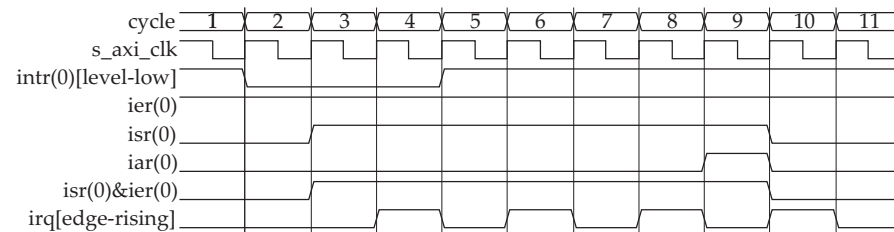

Figure 15: Input Intr - Level Sensitive (Active Low) and Output Irq - Edge Sensitive (Rising)
- Configured Input Interrupt (Intr) for Level sensitive (active Low) and Output Interrupt Request (Irq) to Edge sensitive (rising) and is shown in Figure 15.